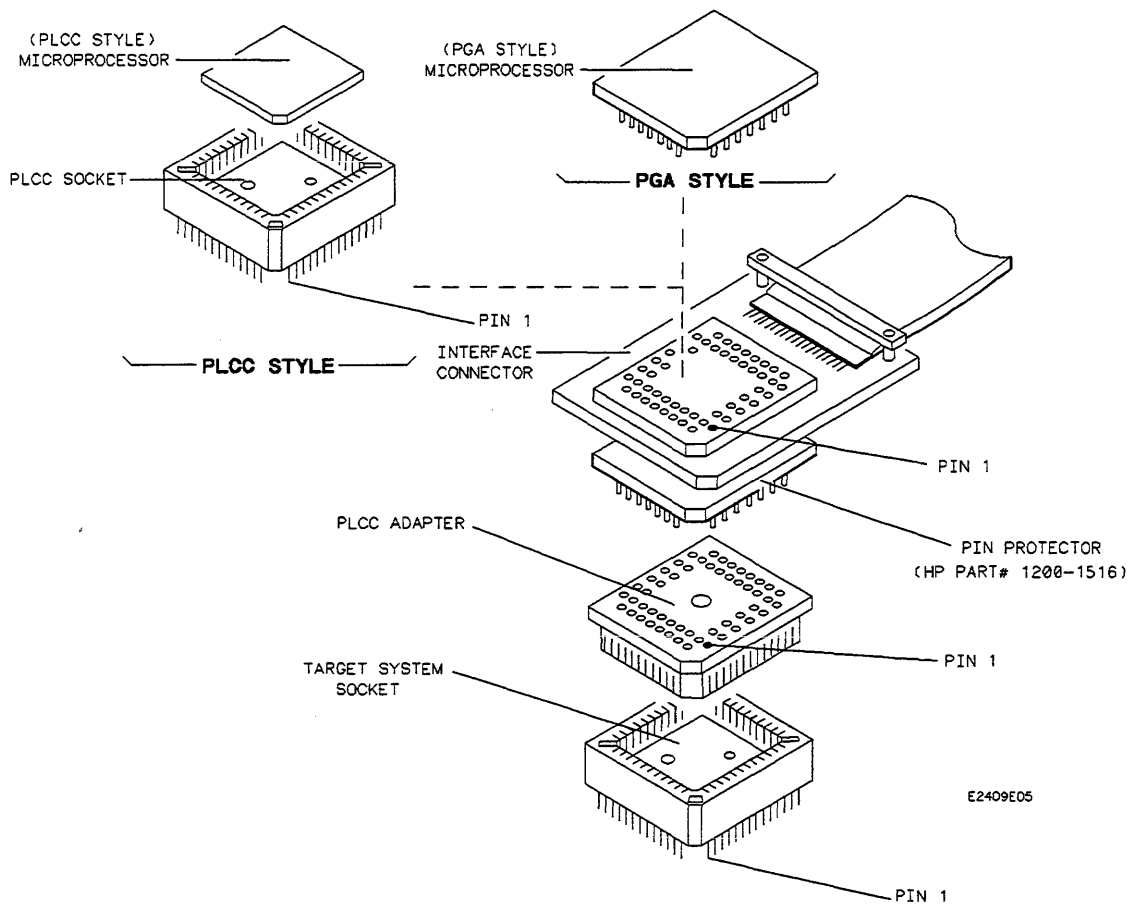

Figure 1-4. Installing the Cable in a PLCC Socket
3. Noting the position of pin 1, place the PLCC adapter in the microprocessor socket on the target system (see figure 1-4).
- If a PGA style 80286 microprocessor chip is unavailable, a PLCC style device can be installed by first installing the PLCC socket, supplied with option 1CB. Note the position of pin 1 and install the socket in the socket on the target end of the preprocessor cable. Then install the PLCC style 80286 microprocessor in the PLCC socket (see figure 1-4).